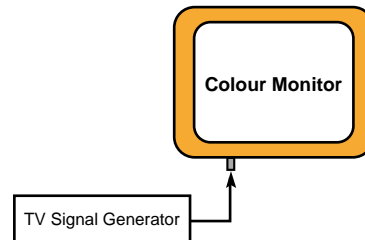

Fig. 4-1
- The Fig. 4-1 shows the connection diagram for the adjustment procedure.